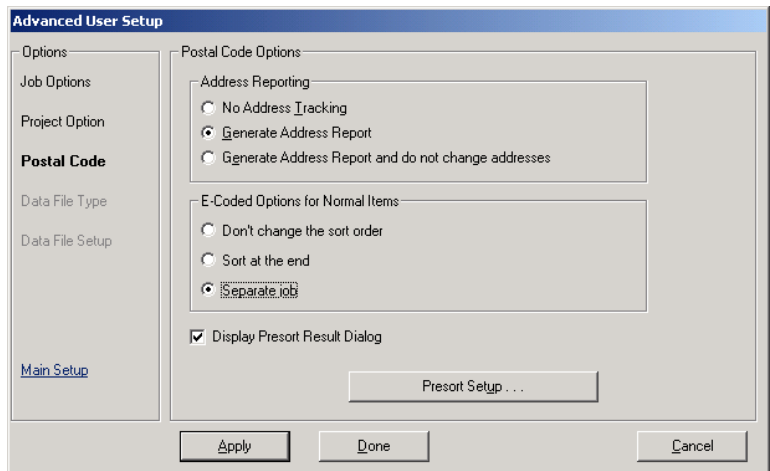

Figure 4-1
3. In the Address Reporting section (Figure 4-1):
As of PB FIRST version 11.03, you can also generate an Address report even when SmartMailer makes its changes by selecting the option Generate Address Report in the Postal Code option set in Advanced User Setup (Figure 4-1).